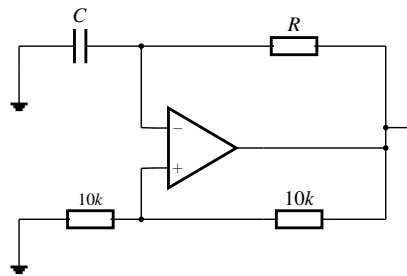

Figure 8.5: Relaxation Oscillator
7. Build the oscillator shown in Fig. 8.5. How does the frequency relate to the component values you used?